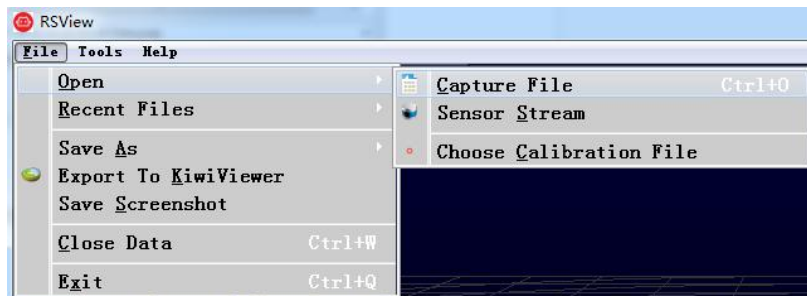

Fig C-6 RSView Open Capture File
1. Click on **File > Open** and select **Capture File** (Fig C-6).